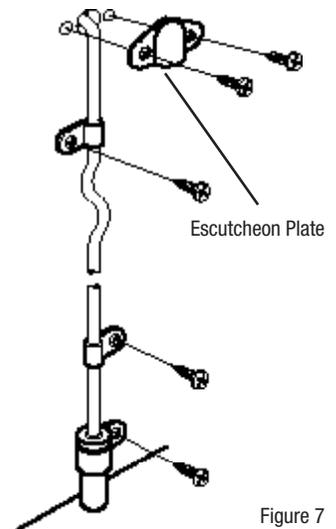

Figure 7
approximately $\frac{3}{4}$ " (19 mm) deep (Figure 7).
2. Use the cable clamps provided to secure the cable to the transom of the boat. If a through-hole is used, an escutcheon plate is included to dress the hole (Figure 7).